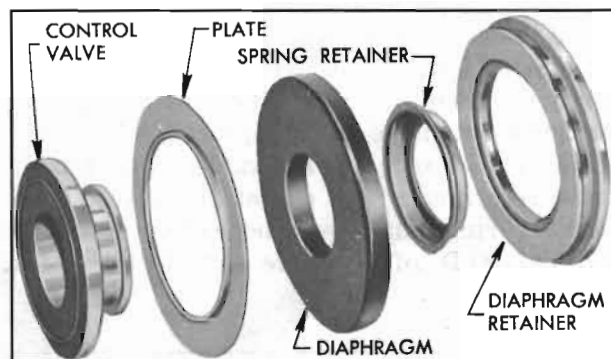

Figure 9-22—Floating Valve Assembly—Exploded
7. To assemble floating valve assembly, stretch new diaphragm to fit in groove on diaphragm retainer. See figure 9-22. Hold flat side of plate against flat side of diaphragm while pressing floating control valve into center hole of diaphragm. Use thumbs to stretch diaphragm over hub of floating control valve, then press spring retainer over valve hub and diaphragm lip. Lubricate O.D. of floating valve with Dynaflow oil and press into place in power piston with rubber face of floating control valve facing in.